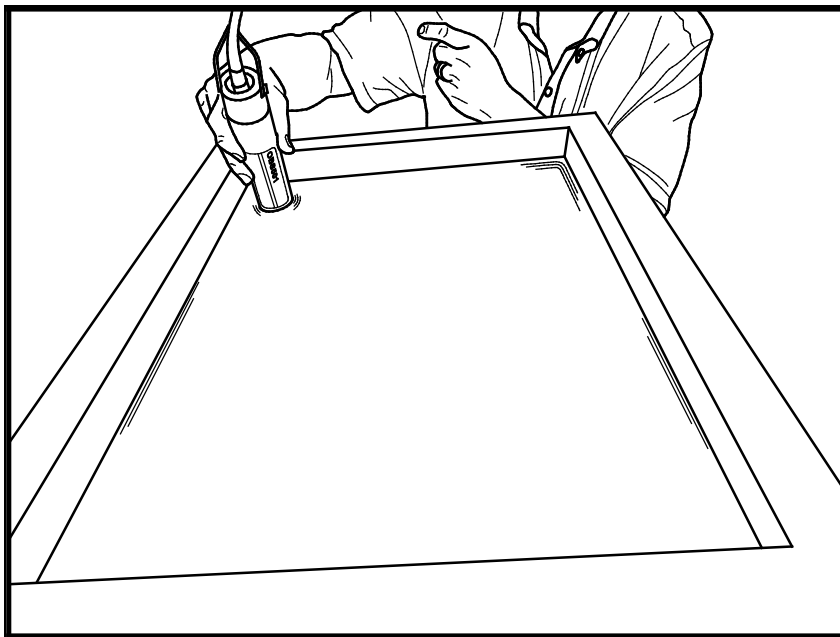

FIGURE 8-3. Position of OBS501 in clean tap water in big black tub
1. Swab sensor with an alcohol-soaked towel to sterilize it. Position the OBS501 in a large, black tub of fresh tap water as shown in FIGURE 8-3 and record a 10 s average of the low-range output. Record the average output on the calibration log sheet.
1. Record and log the clean-water signal as in Step 1, Section 8.6.1, *Turbidity* (p.24); see FIGURE 8-3, *Position of OBS501 in clean tap water in big black tub* (p. 27). Use the same value, such as, sidescatter, backscatter, or ratio throughout the calibration.